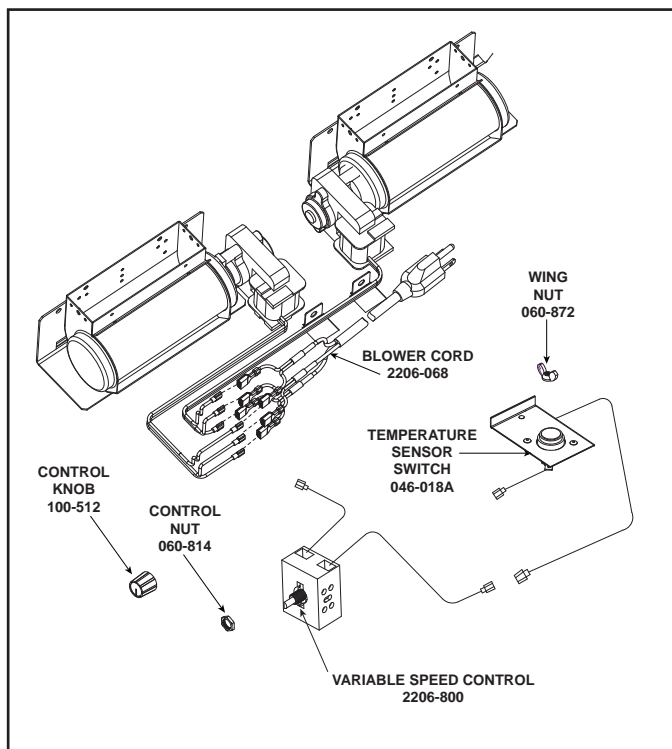

Figure 1
Compare CONTENTS OF CARTON in Figure 1 with the actual parts received. If any parts are missing or damaged, contact your dealer before starting installation. Do not install a damaged blower kit.
5. Plug the blower cord into the blower receptacle. Connect the white, black, and green spade connectors from blower cord harness to each blower. See Figure 1 and Figure 6.